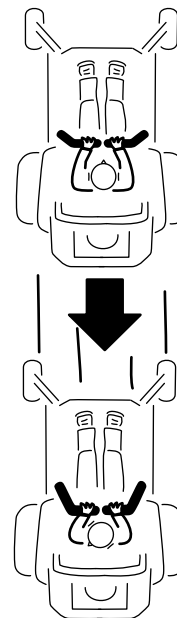

Figure 27
2. To go in reverse, slowly pull the motion-control levers rearward (Figure 27).